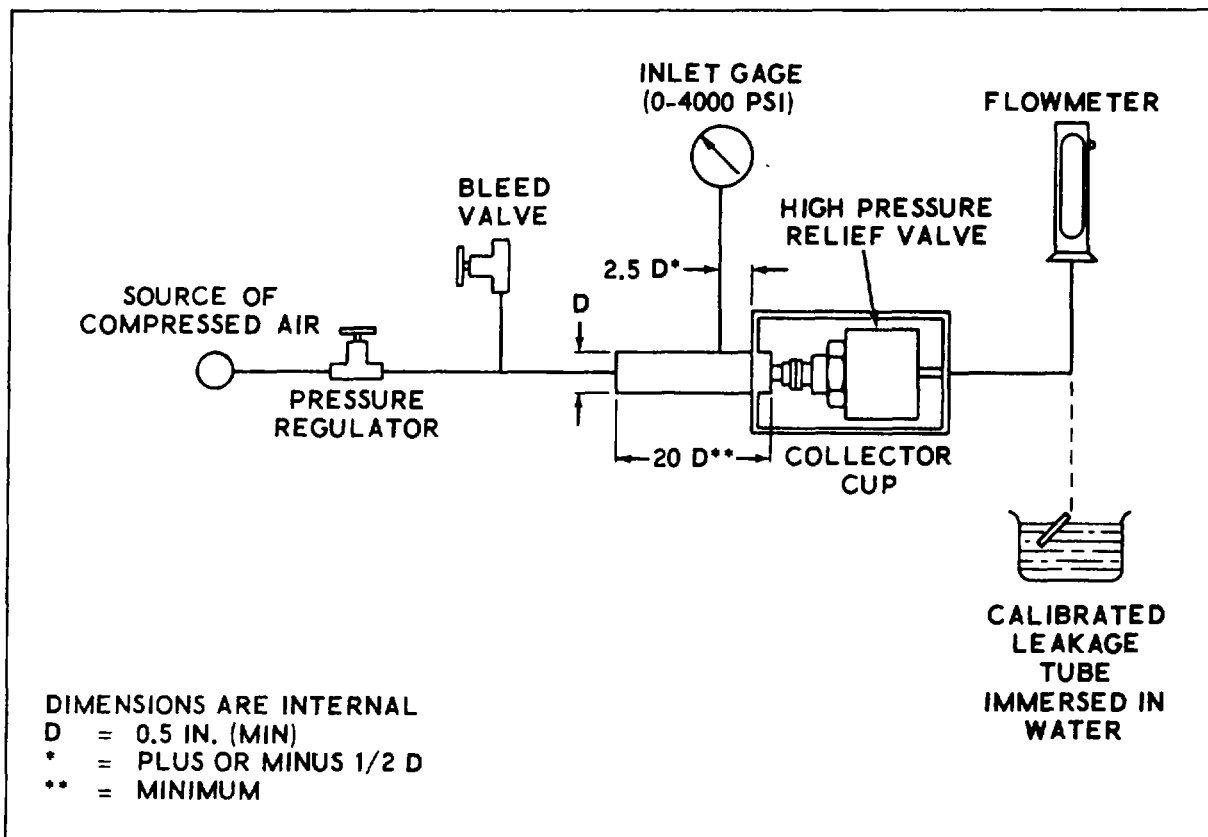

Figure 2-3. Pressure Relief Valve Test Set-Up
a. Install pressure relief valve in test set-up as illustrated schematically in figure 2-3. Be sure to observe dimensions specified for approach and exit sections.